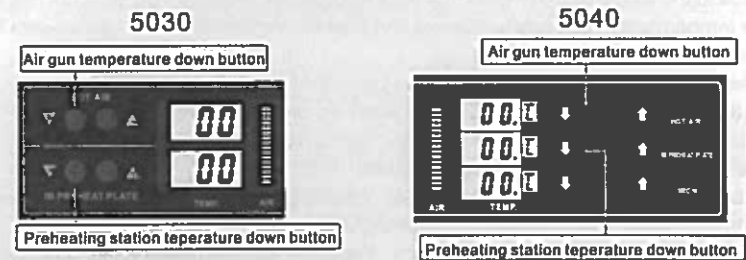

Figure 2
1. The temperature correction function setting (Figure 2)